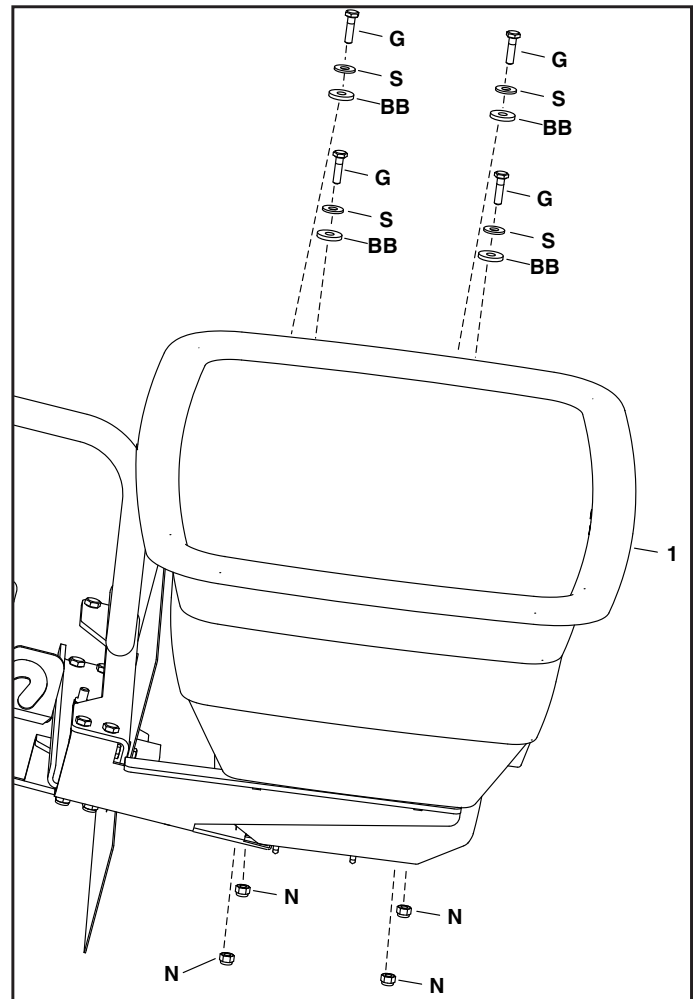

FIGURE 13
STEP 13: (SEE FIGURE 13)
- Place the hopper (1) onto the spreader assembly with the side with the control cable (3) facing towards the mower.
- Install four hex bolts (G), washers (S), and nylon washers (BB) through the inside of the hopper and the hopper mount brackets.
- Secure the four bolts (G) with four nylock hex nuts (N) and then tighten hardware.
- Slide the control cable (3) up through the split on the bottom center of the rear deflector (12) until the cable sets freely in the slot.